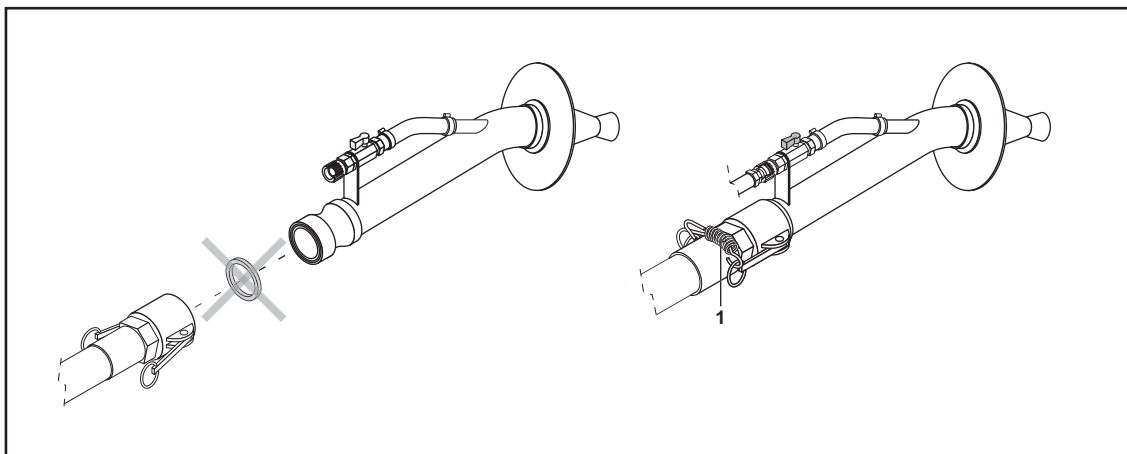

FIG.18
- Connect the gun to the piping, eliminating the gasket: in this way the gun can turn with respect to the piping (FIG.18).
- Block the fitting levers using the safety spring (FIG.18-REF.1).